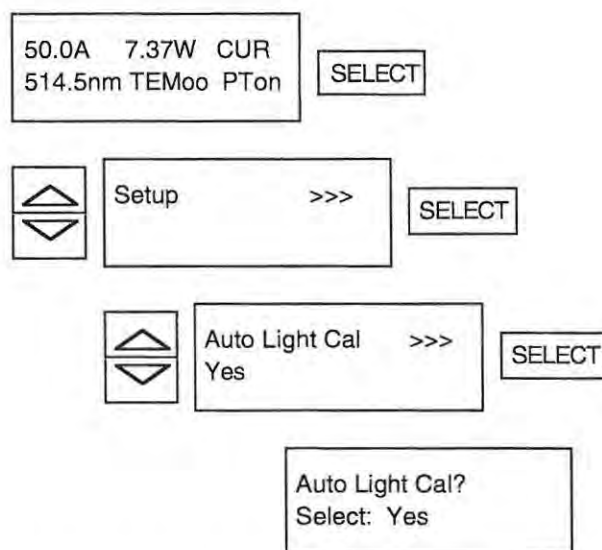

Figure 5-23. Auto Light Cal Menu Path
To enable (default) or disable automatic gain calibration from the remote control module, navigate the menu tree as shown in Figure 5-23. Use the up/down arrows to toggle between the "Yes" and "No" parameters and press SELECT to enter the change. Select "Yes" to enable automatic gain calibration. Select "No" to disable the automatic gain calibration. The setting will be stored in permanent memory. Alternatively, use external computer control to set (Command: AutoLTCal = n) or acquire the status (Query: Print AutoLTCal).
1. Ensure that the system is operating in the standard Light Regulation Mode and that automatic gain calibration is initially enabled (refer to Figure 5-23 with Auto Light Cal set to "Yes"). Alternatively, check the operating mode (Query: Print Mode) and the Auto Light Cal status (Query: Print AutoLTCal) through external computer control.
1. Ensure that the system is operating in the Current Regulation Mode and that automatic gain calibration disabled (refer to Figure 5-23 with Auto Light Cal set to